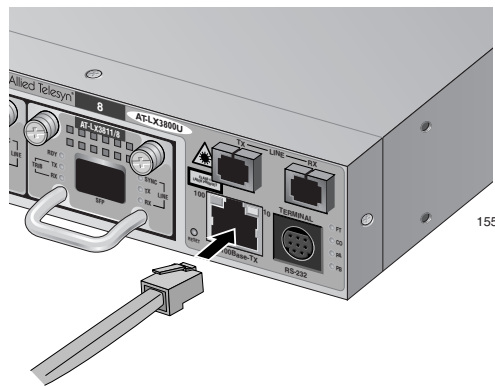

Figure 3. Connecting a Cable to the 10/100Base-T Port
1. Connect a twisted pair cable to the 10/100Base-T port on the front of the chassis, as shown in Figure 3.